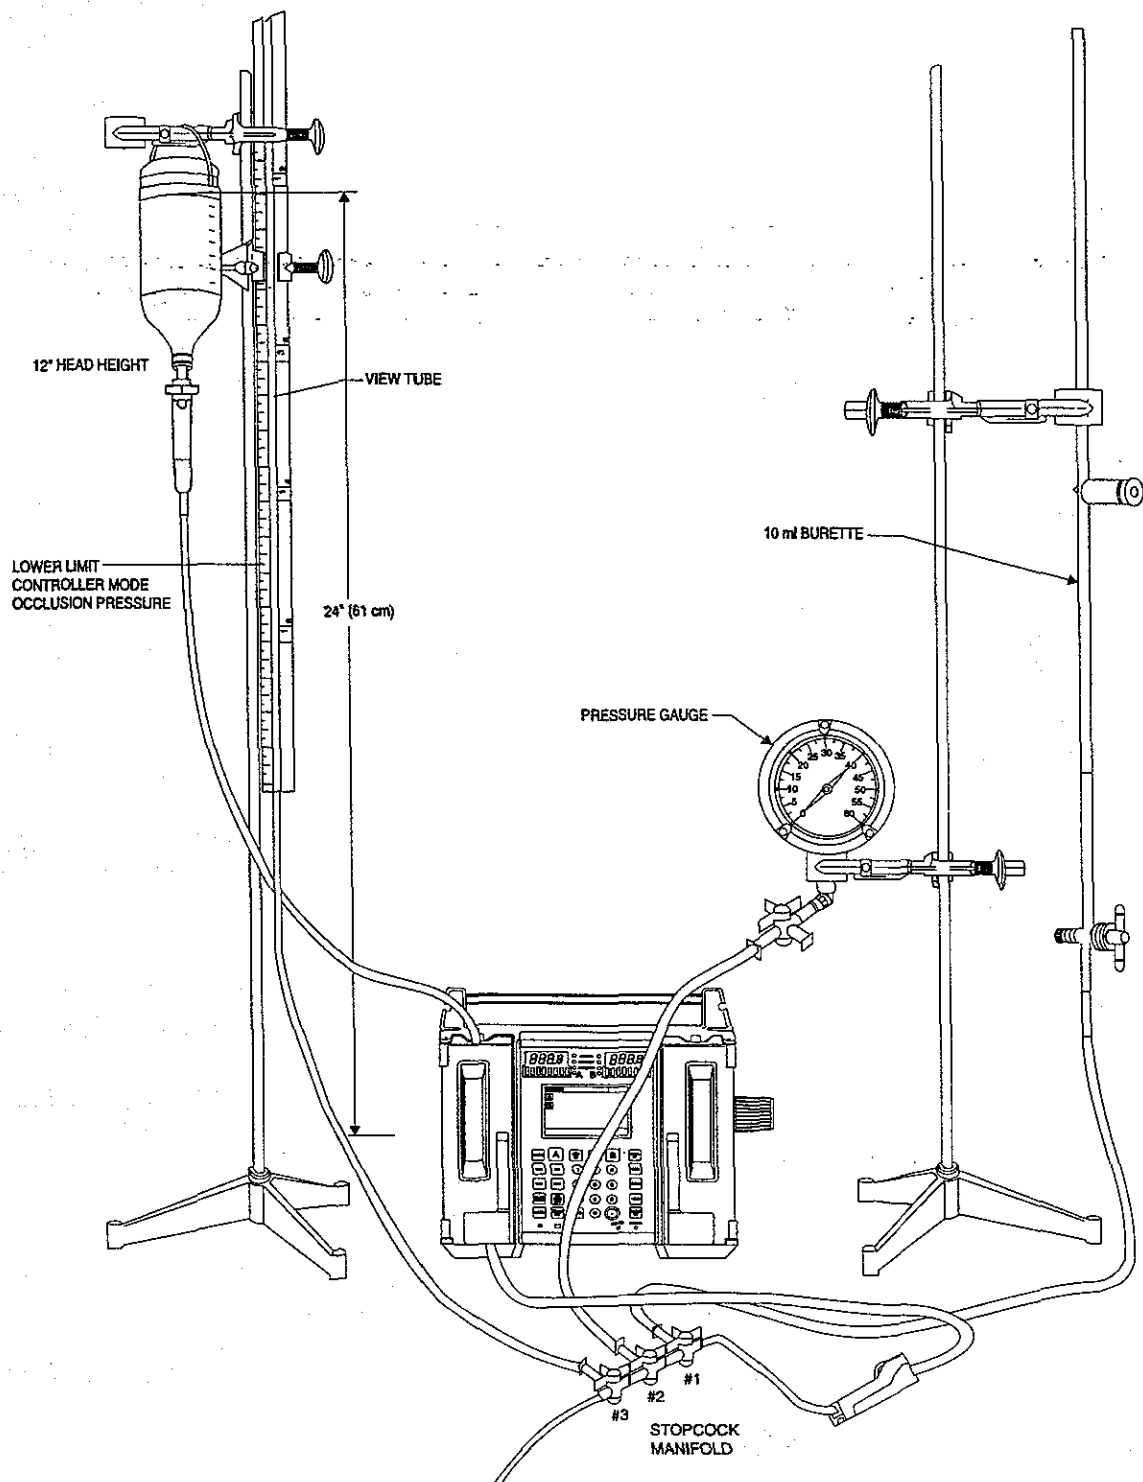

Figure 7-1. Universal Test Station Setup
1. Universal test station: (see Figure 7-1).